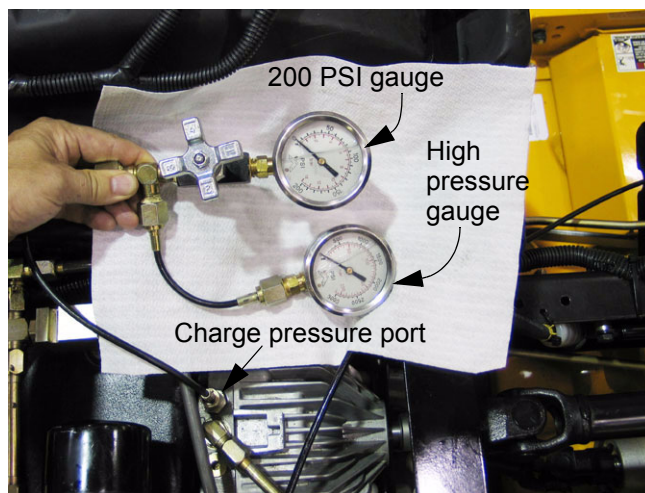

Figure 5.4
- 5.4. Install a pressure gauge capable of reading 200 PSI (13.80 Bars) in the port that the plug was removed from. See Figure 5.4.